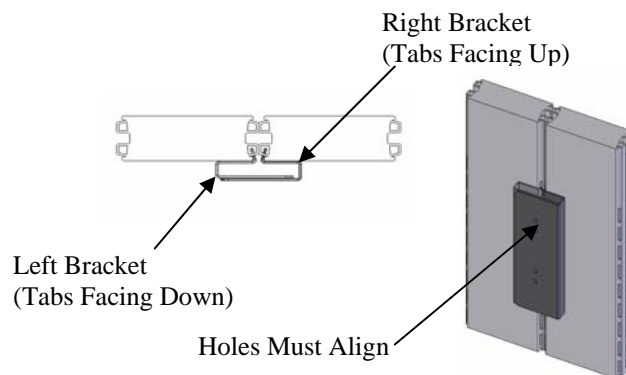

Figure 2
1. Insert the left adapter bracket; tabs facing down, into the office furniture equipment mounting slots at desired height (see Figure 2).
2. Insert the right adapter bracket, tabs facing up, into slots of office furniture equipment and slide the adapter bracket up until mounting holes align (see Figure 2).